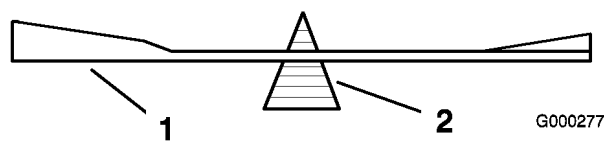
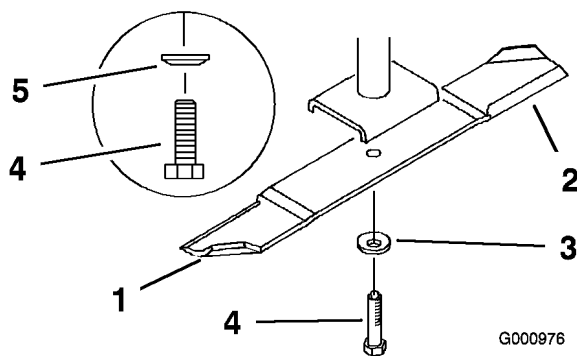

Figure 83
Figure 84
2. Remove the blade bolt, spring disk and blade from the spindle shaft (Figure 84).
2. Check the balance of the blade by putting it on a blade balancer (Figure 83). If the blade stays in a horizontal position, the blade is balanced and can be used. If the blade is not balanced, file some metal off the end of the sail area only (Figure 84). Repeat this procedure until the blade is balanced.
1. Install the blade onto the spindle shaft (Figure 84).
2. Install the spring disk and blade bolt. The spring disk cone must be installed toward the bolt head (Figure 84). Torque the blade bolt to 85-110 ft-lb (115-150 N•m).